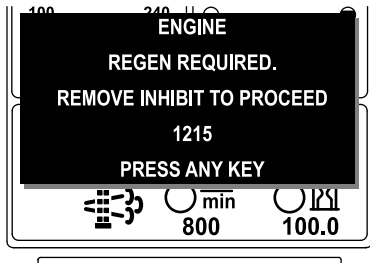

Figure 40
**Note:** If you set the InfoCenter to inhibit regeneration, the InfoCenter displays ADVISORY #1215 (Figure 40) every 15 minutes while the engine requests a reset regeneration.